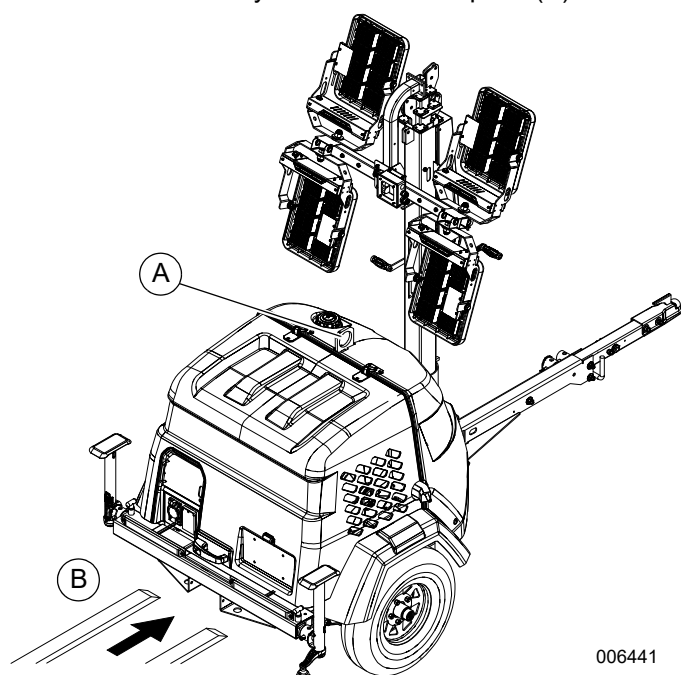

Figure 3-11. Lifting Points
3. See Figure 3-11. Stow the mast and lights in the travel position as shown.
- Before lifting the unit, attach any slings, chains, or hooks directly to the central lift point (A).